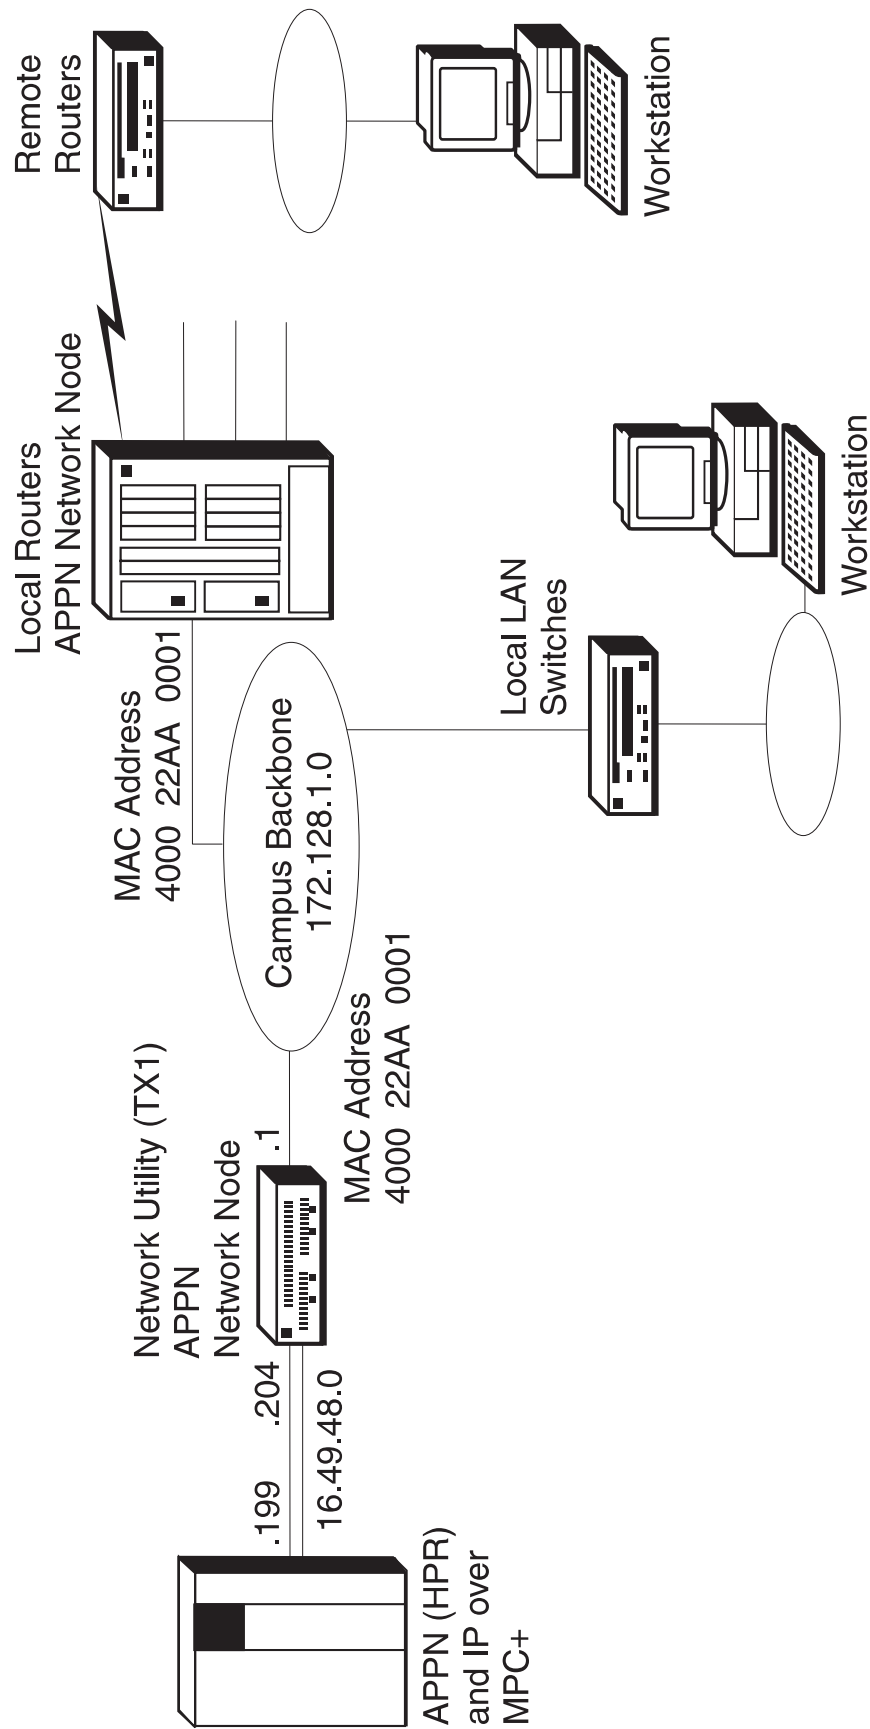

Figure 15-3. Channel Gateway (APPN & IP over MPC+)
8. The destination MAC address in this example is the local router on the right-hand side of the campus backbone in Figure 15-3 on page 15-11. This router is also configured to be an APPN network node.